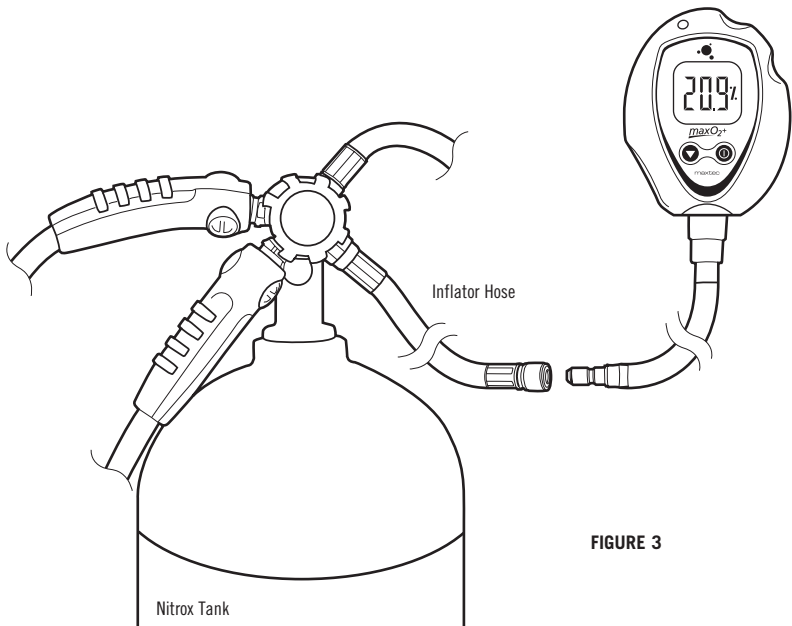

FIGURE 3
2.3 Operation with BC Adapter (refer to figure 3)